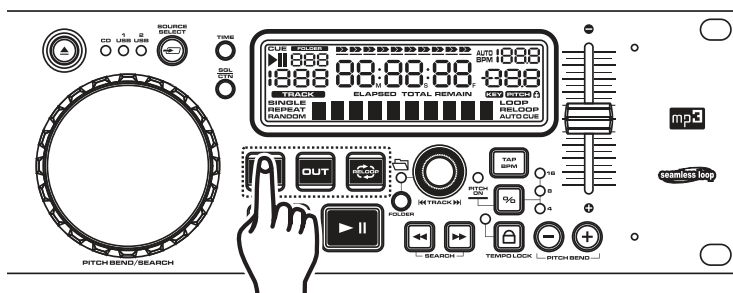

Figure 22
1) Press **PLAY/PAUSE BUTTON (15)** to activate playback mode.
2) Press the **IN BUTTON (17)**. This will set the starting point of the SEAMLESS LOOP (figure 22). The **IN BUTTON (17)** will blink.